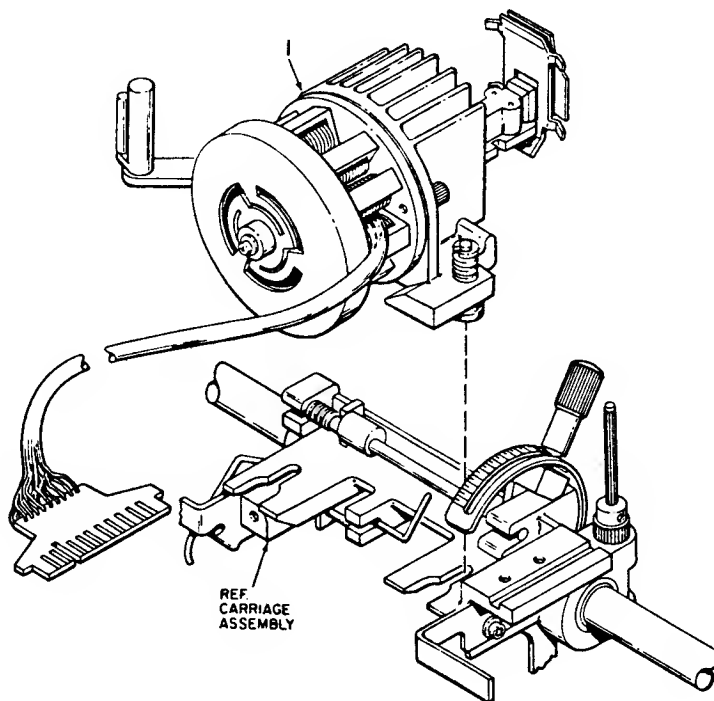

Figure 3-2A. PRINT HEAD ASSEMBLY
- a. As you mount the left (4) and right (6) covers to the printer base, be sure that the covers align with and snap into the standoffs on the left and right sides of the frame.
3.4 PRINT HEAD ASSEMBLY (Figure 3-2A)